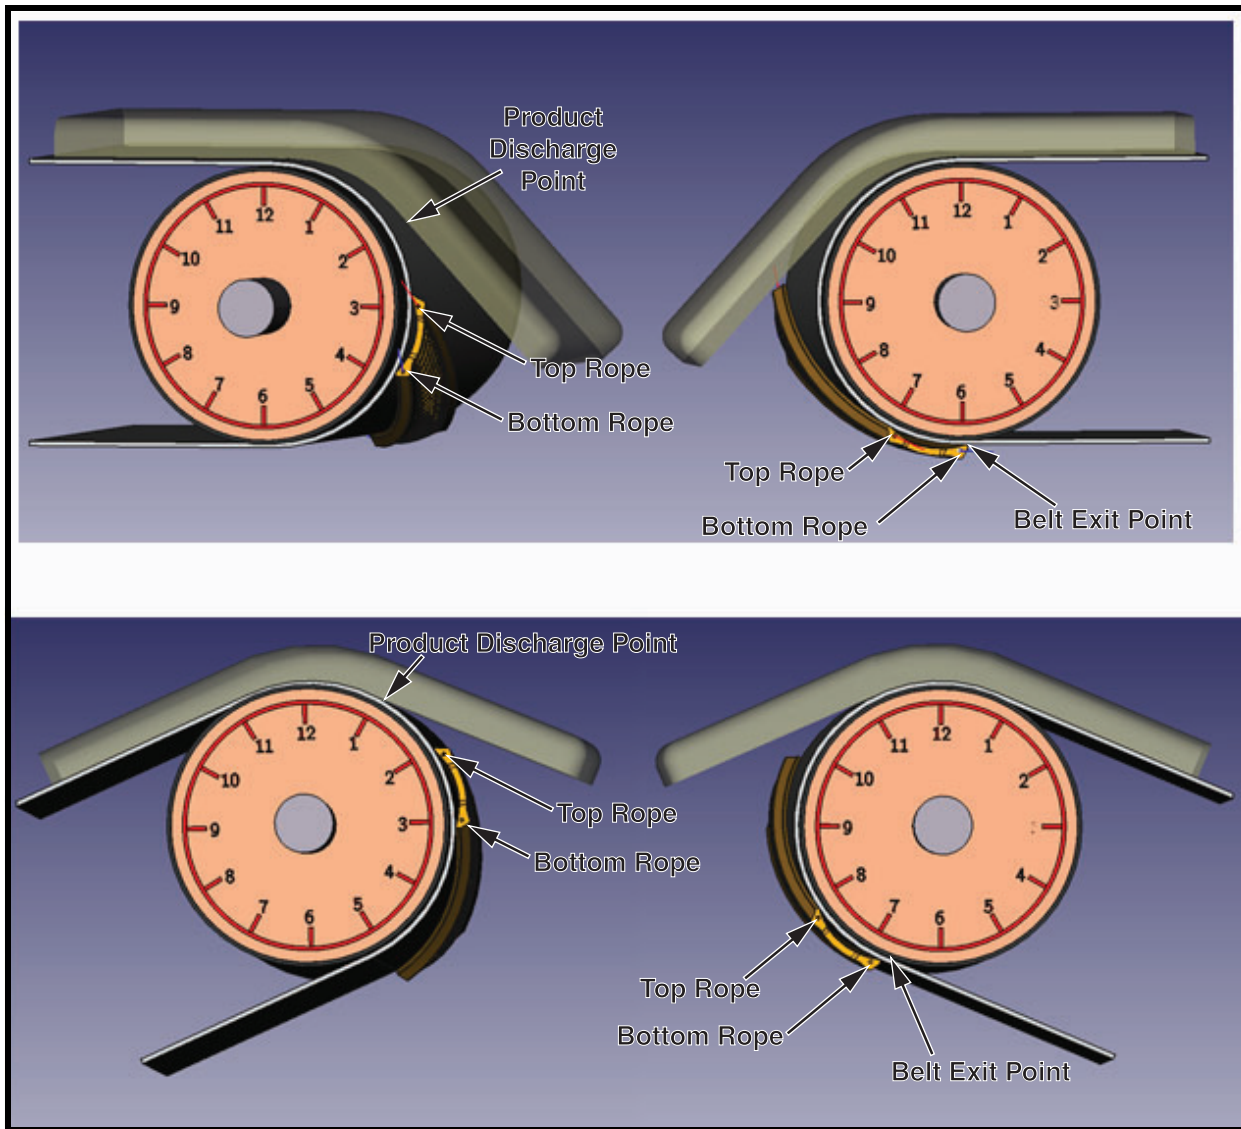
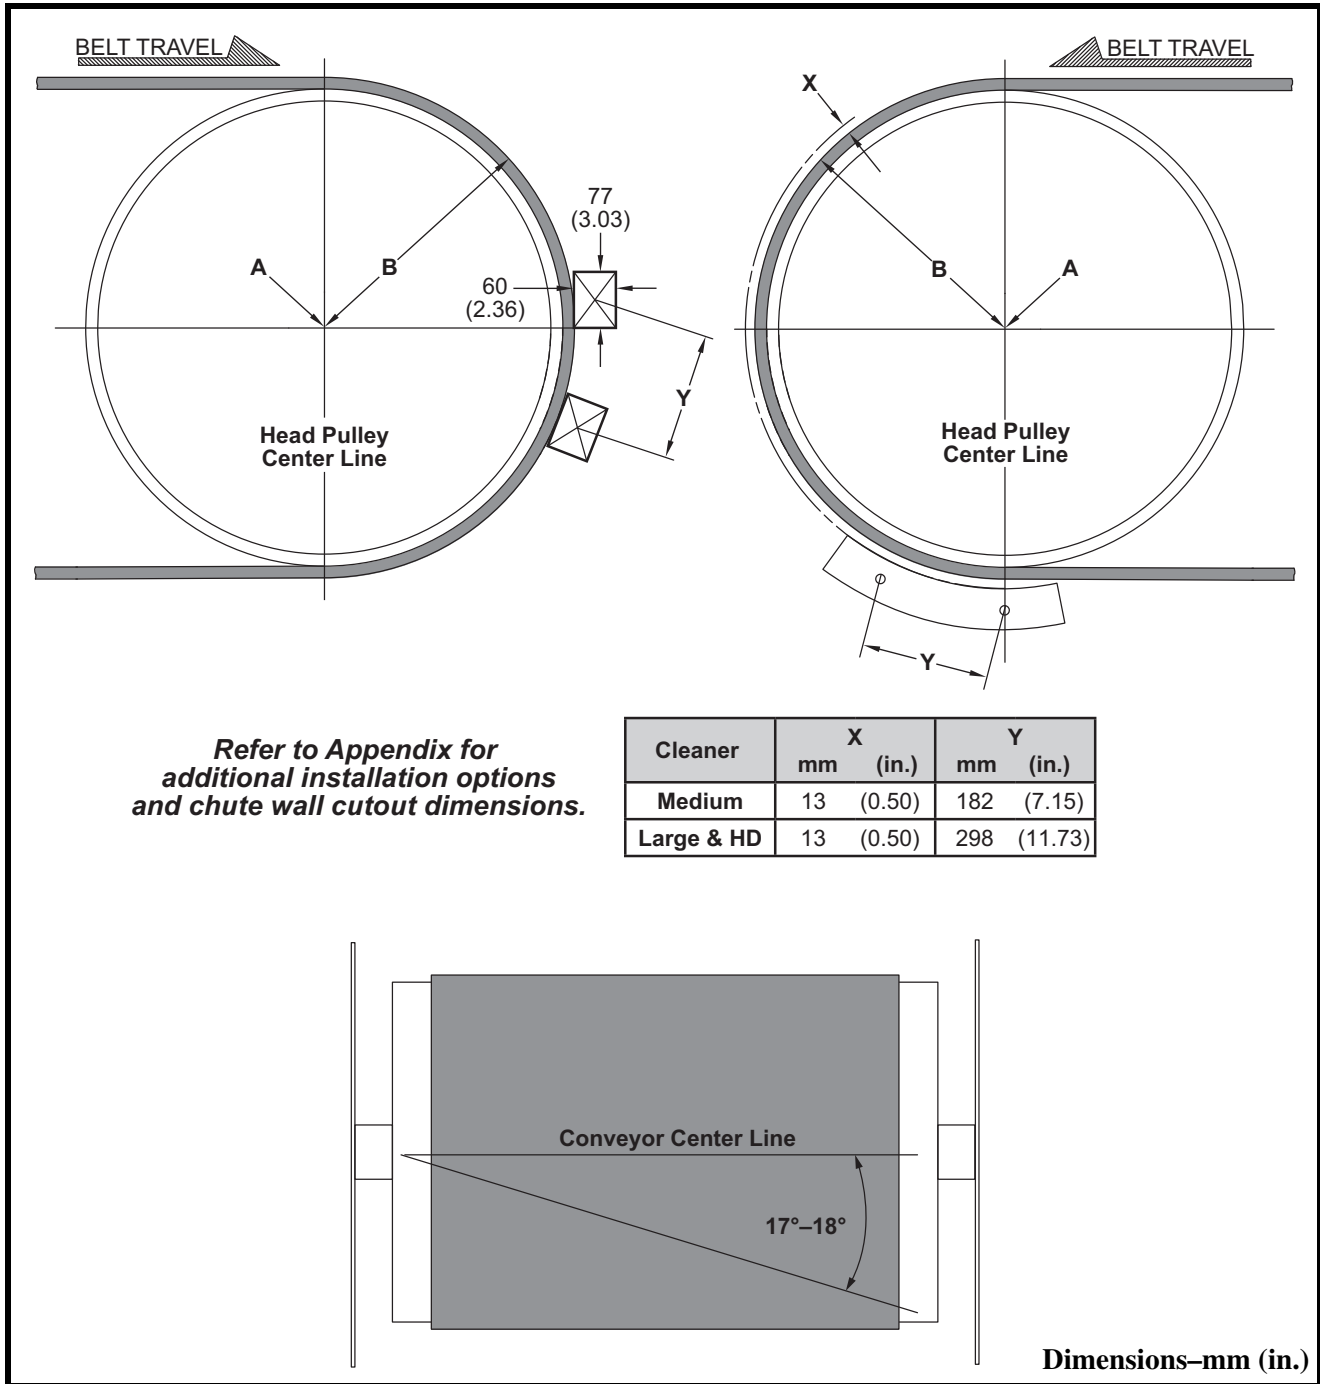

Figure 2. Typical Belt Cleaner Mounting Positions
Figure 6. Belt Cleaner Location & Chute Wall Cutouts
1. On both sides of chute, find pulley center point (A).
2. Measure radius of head pulley including lagging and belt thickness (B). To this dimension, add dimension X from Figure 6.
3. On the far side of chute, start from center point (A), measure the total distance calculated in step 2 (B + X), and draw an arc on chute wall.
4. On the operator side of chute, start from center point (A), draw an arc on chute wall with a radius of (B).
- a. Draw a centerline of the head pulley perpendicular to the conveyor belt line (see Figure 6). Rotate the bottom side mount back as far as possible in order to achieve at least 17° of belt wrap while not exceeding the belt exit (see Figures 2 & 3).
- (1) Position fixed point bracket on far side chute wall as shown in Figure 6 (centerline install is used as an example).
- (2) Mark bracket hole locations.
- (3) Drill or cut two 13 mm (1/2-in.) holes for screws in far side chute wall.
- (4) Mount fixed point bracket to inside of far side chute wall using countersunk screws (B) and nuts.
- (2) Weld bracket to chute wall. Weld completely around bracket. Do not skip weld.
- b. Draw a line at 17° from bottom hole of bottom bracket to location of bottom hole on top bracket, or utilize a string or elastic band to locate proper angle. Attach string to bottom hole on bottom bracket and hold it to head pulley centerline at 6:00 o'clock position on opposite chute, check angle, adjust angle to stay below product discharge point (see Figures 2 & 3). Mark location for bottom hole of top side tensioner.
- c. Position weld plate as shown in Figure 6. The bottom of the cutout should be the conveyor centerline. The edge of the cutout should be tangent to the belt edge. Mark chute wall cutout as shown in Figure 6.
- d. Mark upper bracket chute wall cutout as shown in Figure 6. Dimension Y is equal to the distance between mount holes on far side bracket.